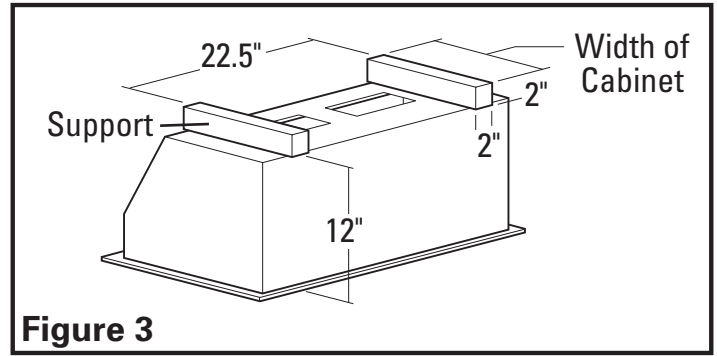

Figure 3
**NOTE:** If cabinet frame work does not exist, you will need to install framing to secure the unit to (Figure 3).